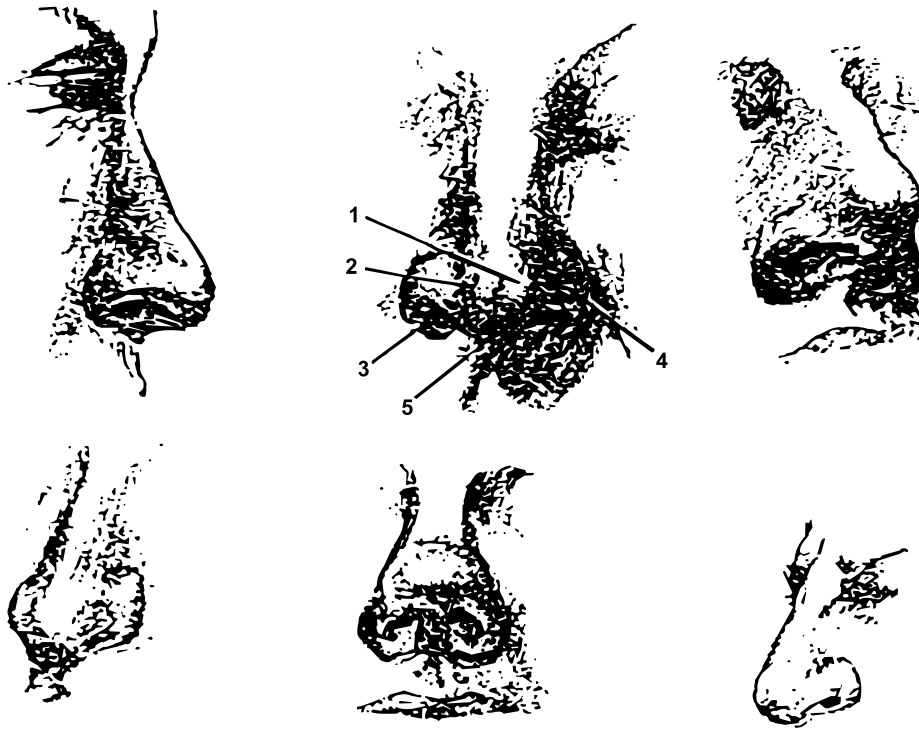

Figure K-14. The nose.
(1) The lower part of the nose consists of five pieces of cartilage (Figure K-14). Pieces one and two form the tip; three and four form the nostrils. Piece five forms the hook of the nose to separate the nostrils and descends lower than the nostrils.